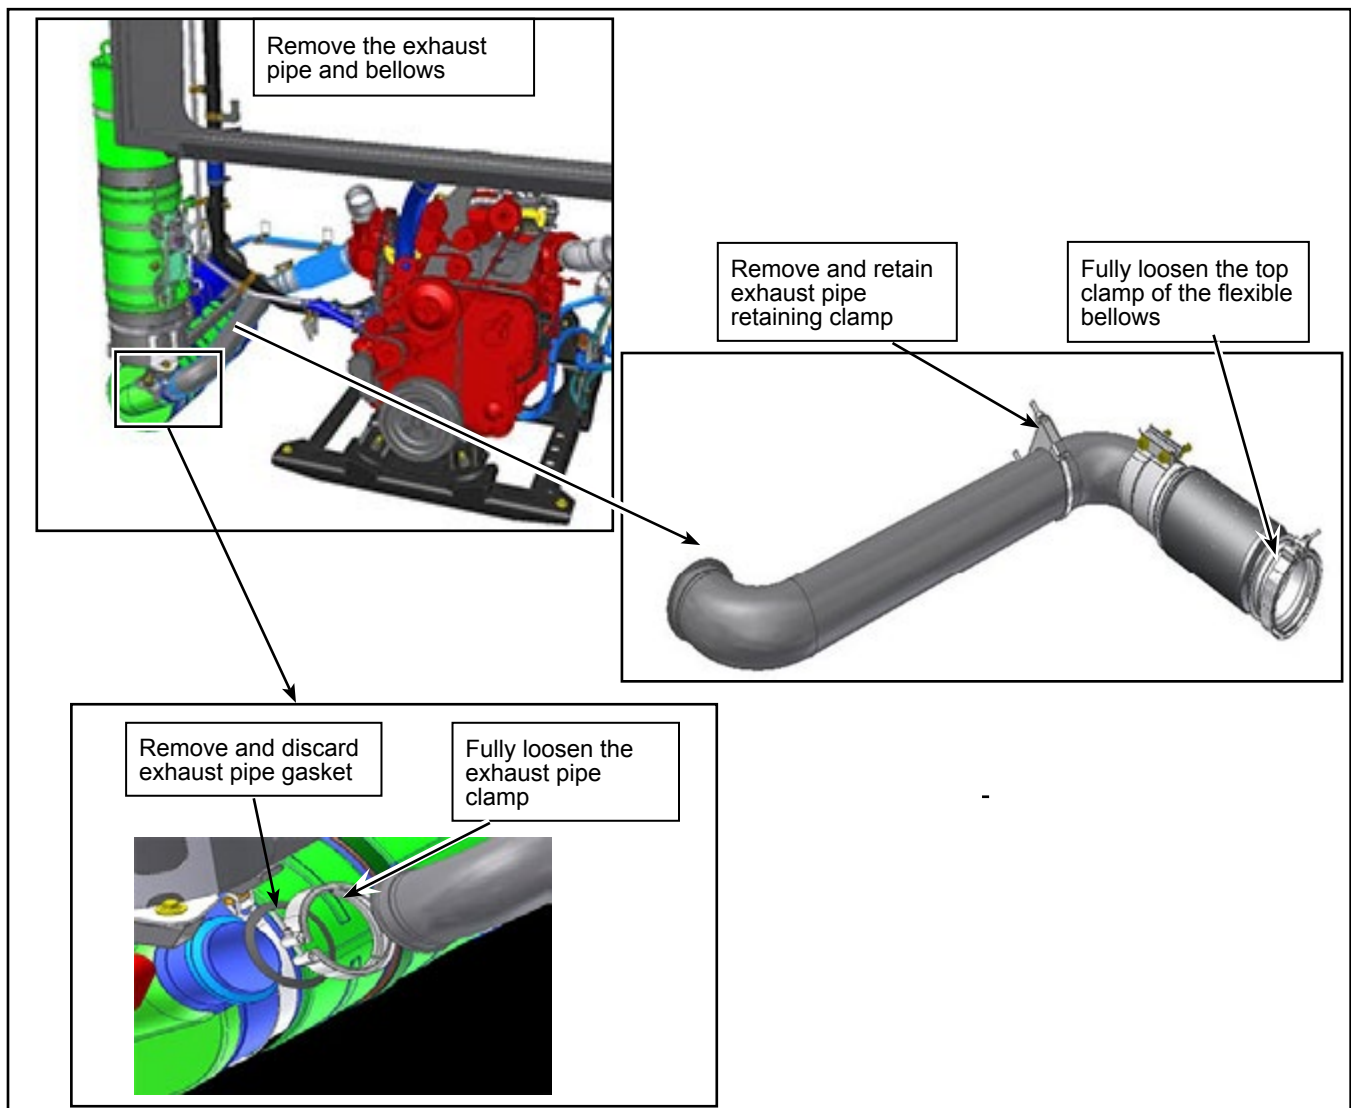

Figure 1 - Removal of Exhaust Pipe and Flexible Bellows
- 1.4. Fully loosen the top clamp of the flexible bellows. See Figure 1.
- 1.5. Remove the retaining clamp of the exhaust pipe. Reserve the retaining clamp and hardware. See Figure 1.
- 1.6. Fully loosen the exhaust pipe clamp. See Figure 1.
- 1.7. Remove the exhaust pipe and bellows. Reserve all parts except the exhaust pipe gasket. See Figure 1.